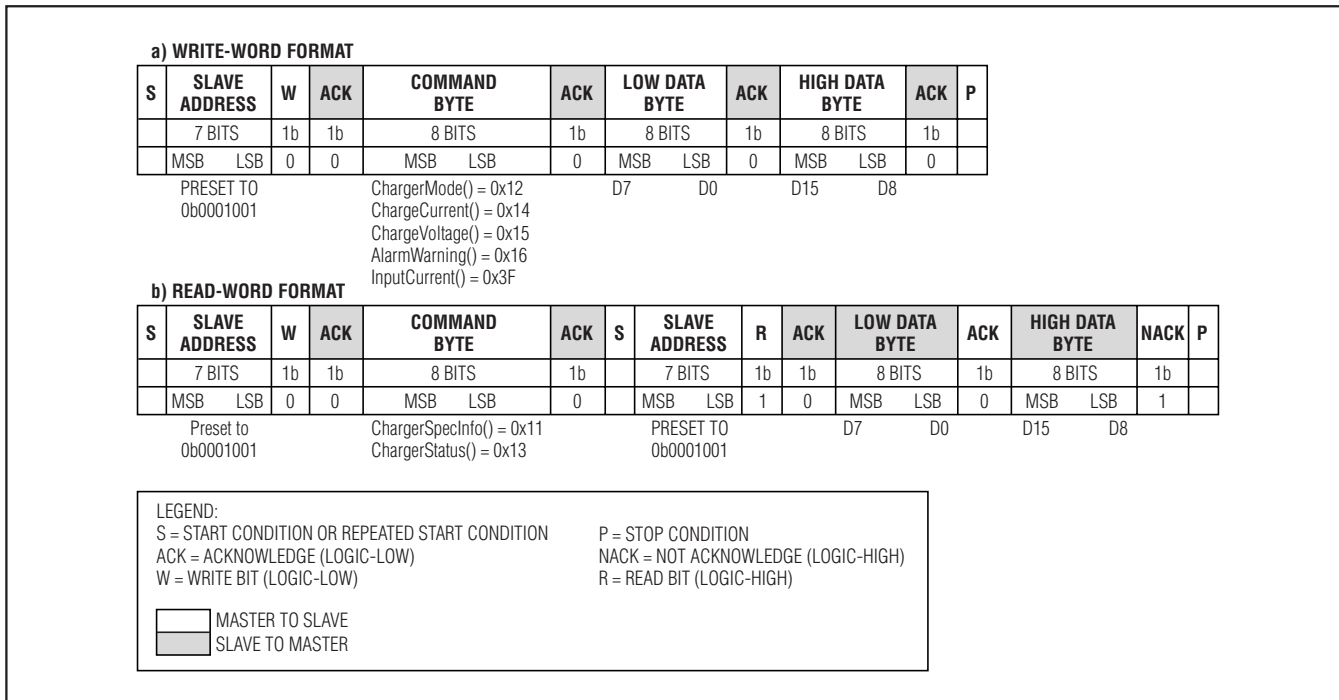

Figure 3. SMBus Write-Word and Read-Word Protocols
To set the charge current, use the SMBus to write a 16-bit ChargeCurrent() command using the data format listed in Table 2. The ChargeCurrent() command uses the Write-Word protocol (see Figure 3). The command code for ChargeCurrent() is 0x14 (0b00010100). When  $RS2 = 10m\Omega$ , the MAX8731A provides a charge current range of 128mA to 8.064A, with 128mA resolution. Set ChargeCurrent() to 0 to terminate charging. Upon reset, the ChargeVoltage() and ChargeCurrent() values are cleared and the charger remains off until both the ChargeVoltage() and the ChargeCurrent() commands are sent. Both DHI and DLO remain low until the charger is restarted.
To set the input current limit, use the SMBus to write a 16-bit InputCurrent() command using the data format listed in Table 3. The InputCurrent() command uses the Write-Word protocol (see Figure 3). The command code for InputCurrent() is 0x3F (0b00111111). When RS1 = 10m $\Omega$ , the MAX8731A provides an input-current-limit range of 256mA to 11.004A, with 256mA resolution. InputCurrent() settings from 1mA to 256mA result in a current limit of 256mA. Upon reset the input current limit is 256mA.
The MAX8731A receives control inputs from the SMBus interface. The MAX8731A uses a simplified subset of the commands documented in System Management Bus Specification V1.1, which can be downloaded from [www.smbus.org](http://www.smbus.org). The MAX8731A uses the SMBus Read-Word and Write-Word protocols (Figure 3) to communicate with the smart battery. The MAX8731A performs only as an SMBus slave device with address 0b0001001\_ (0x12) and does not initiate communication on the bus. In addition, the MAX8731A has two identification (ID) registers (0xFE): a 16-bit device ID register and a 16-bit manufacturer ID register (0xFF).